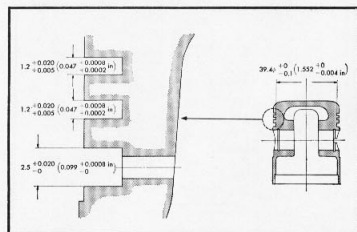

Figure 3-48. Piston ring groove dimensions
- (6) Piston ring, compression, [] are for C50, C50M, S50 (Fig. 3-48, 3-49)